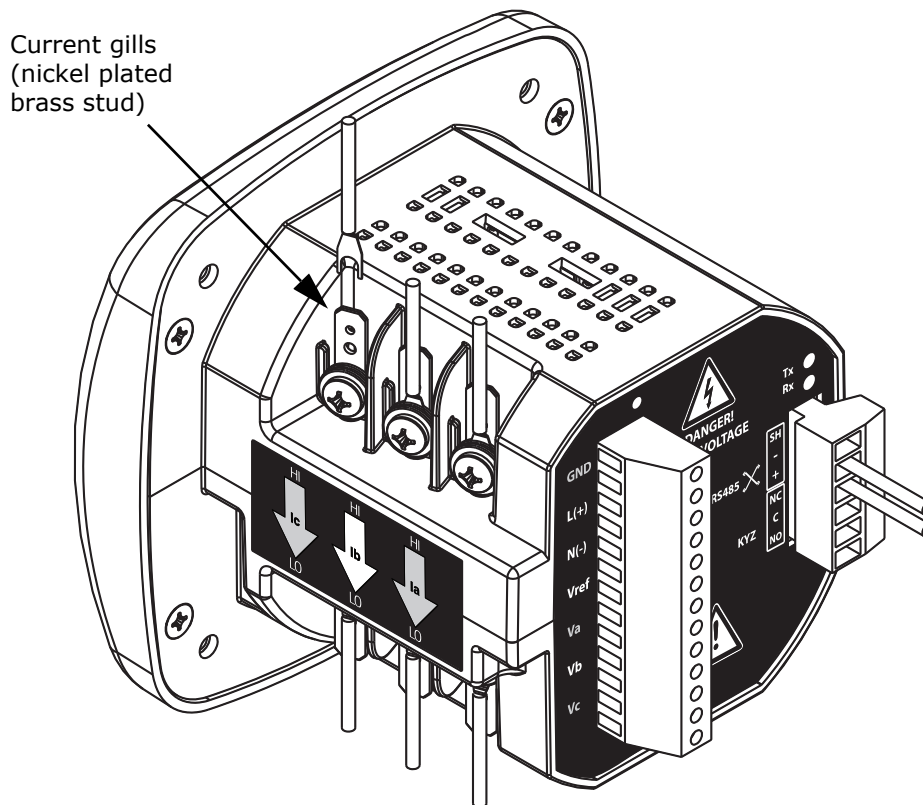

Figure 4.1: CT Leads terminated to Meter, #8 Screw for Lug Connection
The Shark® 100/50 meter is designed to have current inputs wired in one of three ways. Figure 4.1 shows the most typical connection where CT Leads are terminated to the meter at the current gills. This connection uses nickel-plated brass studs (current gills) with screws at each end. This connection allows the CT wires to be terminated using either an "O" or a "U" lug. Tighten the screws with a #2 Phillips screwdriver. The maximum installation torque is 1 Newton-Meter.
**NOTE:** Figures 4.1 - 4.4 show the back of a meter with the 485P option. If your meter is a Shark® 100B or is a Shark® 100 with the INP10 option, you will see an RJ45 port and KYZ Pulse Output on the back of the meter. If your meter is a Shark® 50B, you will see both an RS485 and RJ45 port, but no KYZ Pulse Output.